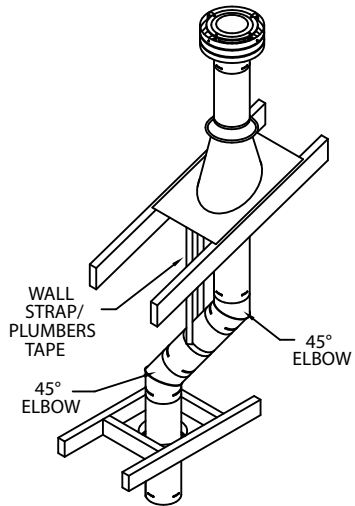

Figure 16
(2) If an offset is necessary in the attic to avoid obstructions, it is important to support the vent pipe in order to avoid excessive stress on the Elbows. Wall Straps or plumbers tape may be used for this purpose (**Fig. 16**).